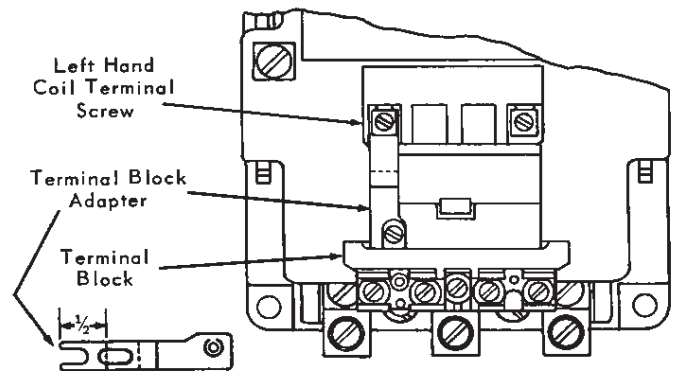

Figure 6
NOTE: — Size 4 Only — 1/2 inch must be cut from terminal block adapter as shown in Fig. 6.
- Loosen left hand coil terminal screw and slide fork end of adapter under screw (see Fig. 6).